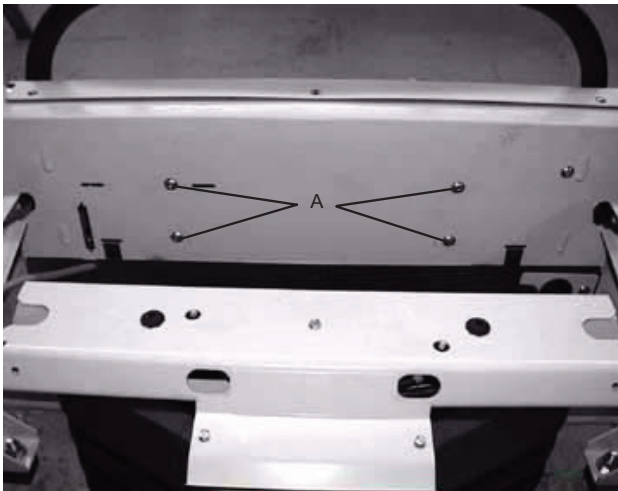

Figure 1
5. Using a T27 Torx, remove the four bolts (A) at the head end of the bed holding the control bar mounting bracket to the head end (see Figure 1).